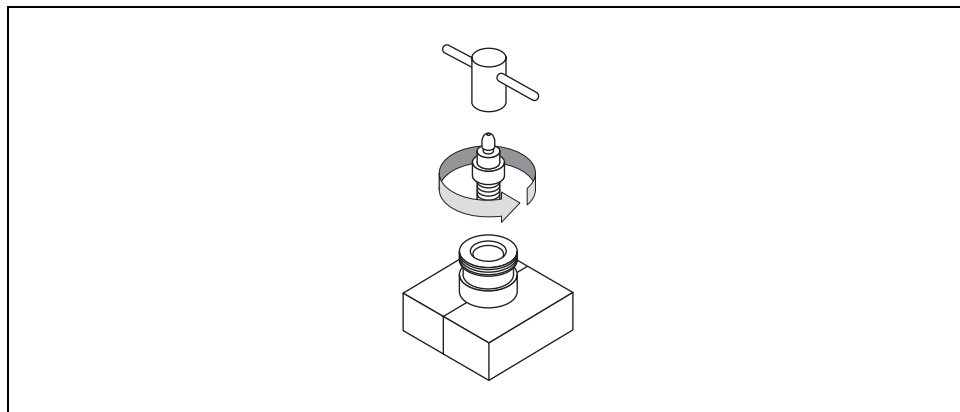

Figure 15-13. Clean/Replace the Jet (2)
6. Using the tool provided with the GC, unscrew the jet. See Figure 15-13.